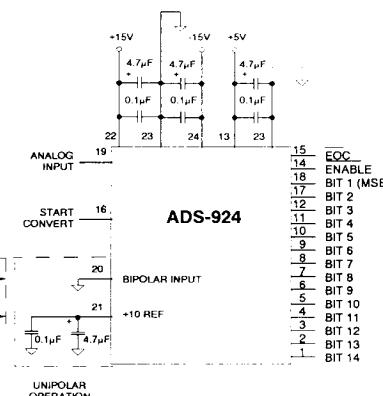

Figure 3. Typical Input Connections
- Applications which are unaffected by endpoint errors or remove them through software will use the typical connections shown in Figure 3. Remove system errors or adjust the small initial errors of the ADS-924 to zero using the optional external circuitry shown in Figure 4. The external adjustment circuit has no affect on the throughput rate.
- Connect the converter per Figure 3, Figure 4, and Table 2 for the appropriate full-scale range (FSR). Apply a pulse of 200 nanoseconds minimum to the START CONVERT input (pin 16) at a rate of 250 KHz. This rate is chosen to reduce flicker if LED's are used on the outputs for calibration purposes.